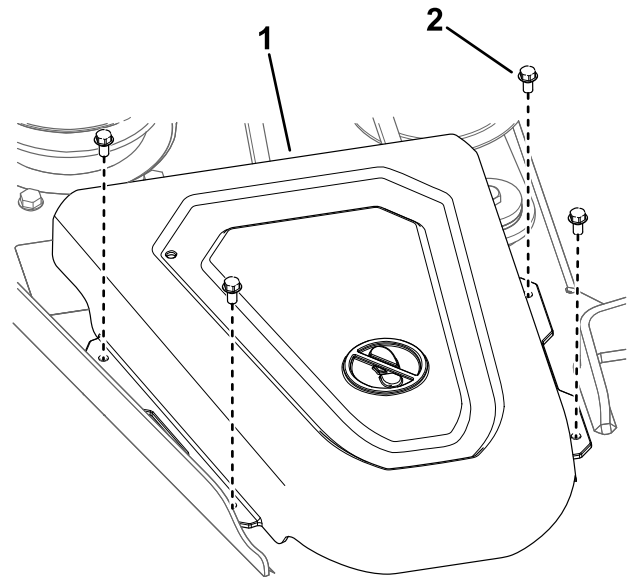

Figure 50
4. Remove the pulley covers (Figure 50).